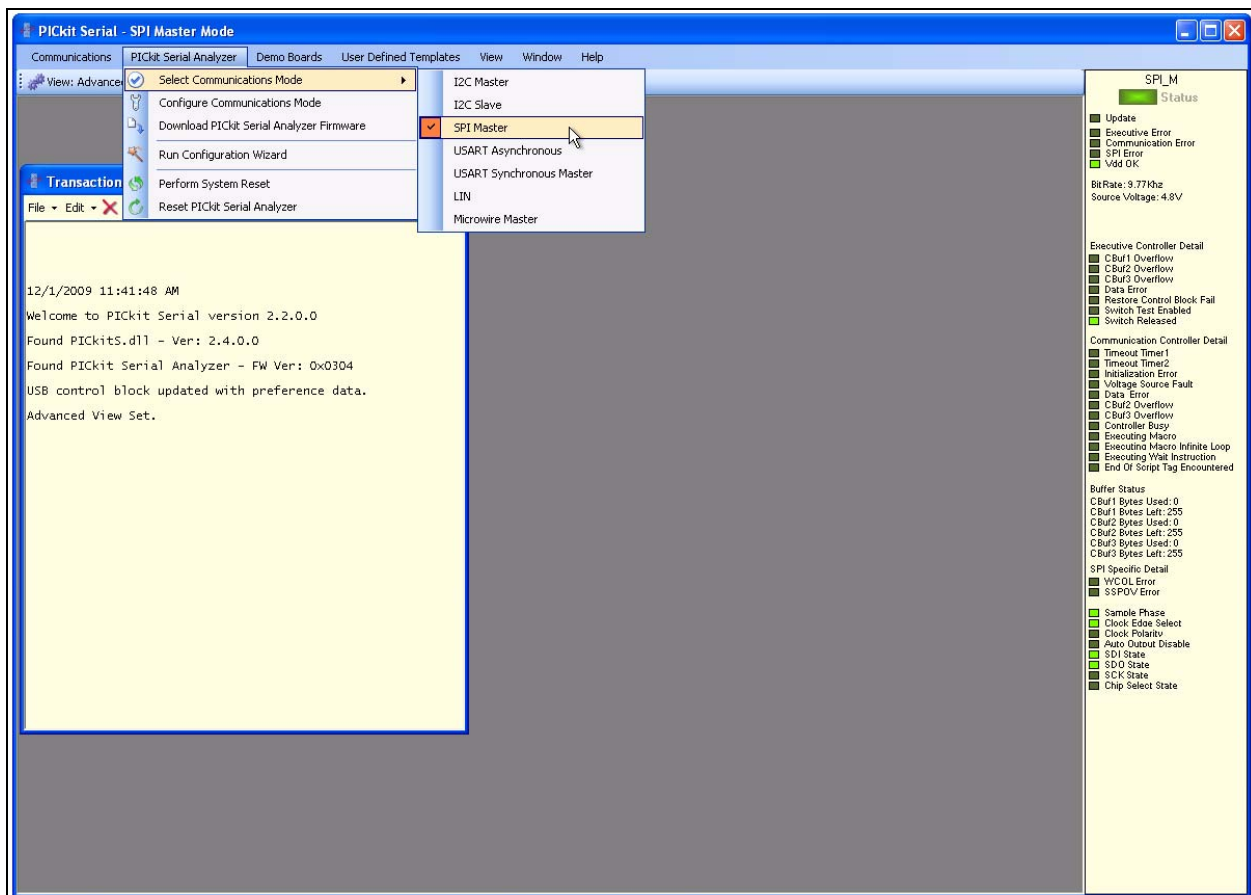

FIGURE 2-5: *PICkit Serial Selecting Communications Mode.*
We need to select the PICkit Serial Analyzer GUI to be in SPI Master mode. Figure 2-5 shows how to select the proper mode. Select *PICkit Serial Analyzer -> Select Communications Mode -> SPI Master* menu item (make sure the SPI Master item is checked).
5. Ensure the GUI is in Master SPI communication mode (see Figure 2-5).